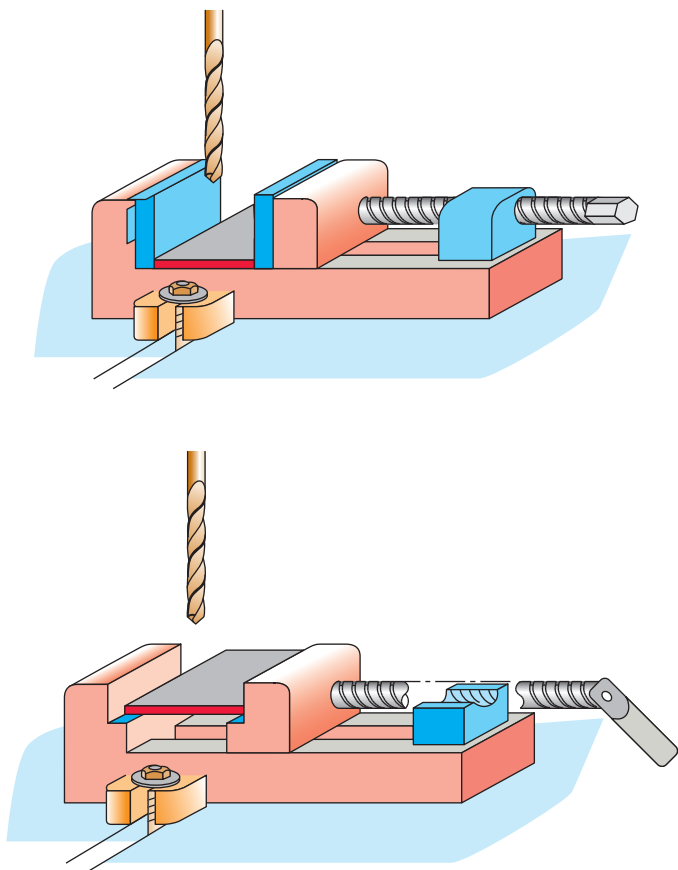

Figure 10-89 Identify the drill press vise by its features.
7. In Fig. 10-89, the same part is set up to drill in two different vises.
- A. Which vise is designed to be a drill press vise in Fig. 10-89?